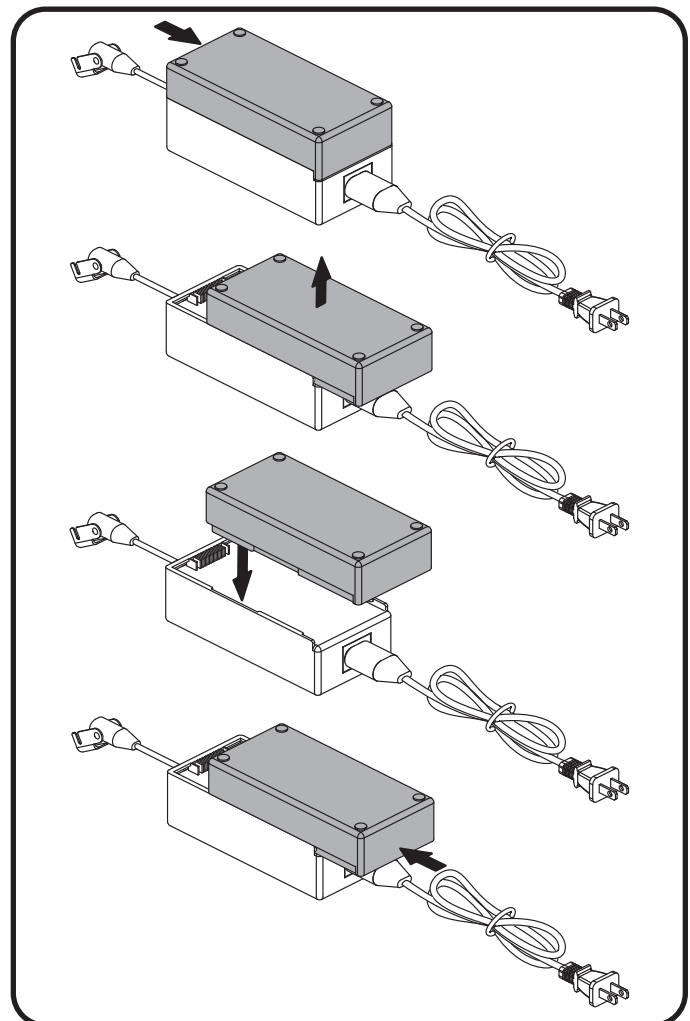

Figure 4.6 Lithium-Ion Battery Replacement
5. Place the new lithium-ion battery on top of the external transformer with the securement grooves toward the external transformer (**fig. 4.6**).